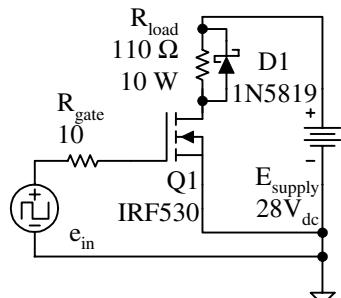

Figure 6-34 N-channel low side switch
1. Build the circuit in Figure 6-34. Take particular care to keep the leads as short as possible, and to provide the separate common returns as indicated. Connect the Schottky diode *directly* across the load terminals.